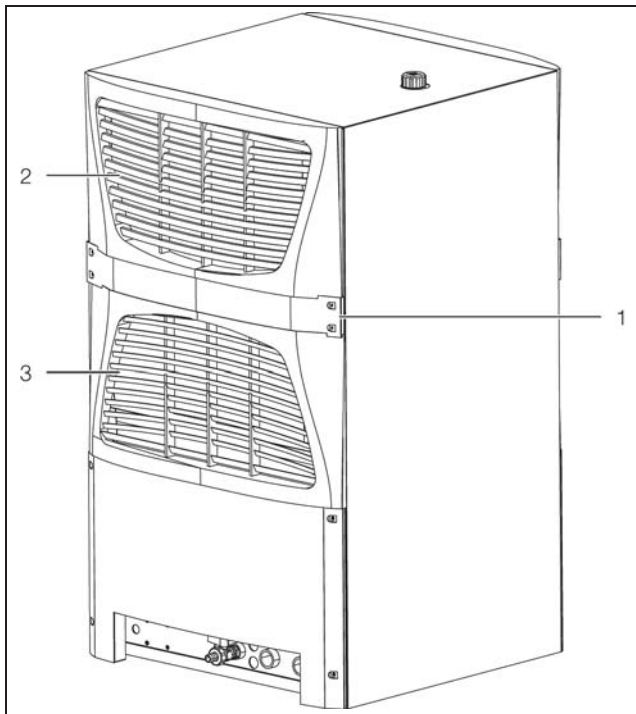

Fig. 50: Installing the filter mat (3334.660)
- Remove the infill panel (fig. 50, item 1). To do so, unscrew the screws.
- Pull the upper (fig. 50, item 2) and lower (fig. 50, item 3) louvred grille on the rear of the chiller (air inlet) off of the housing.